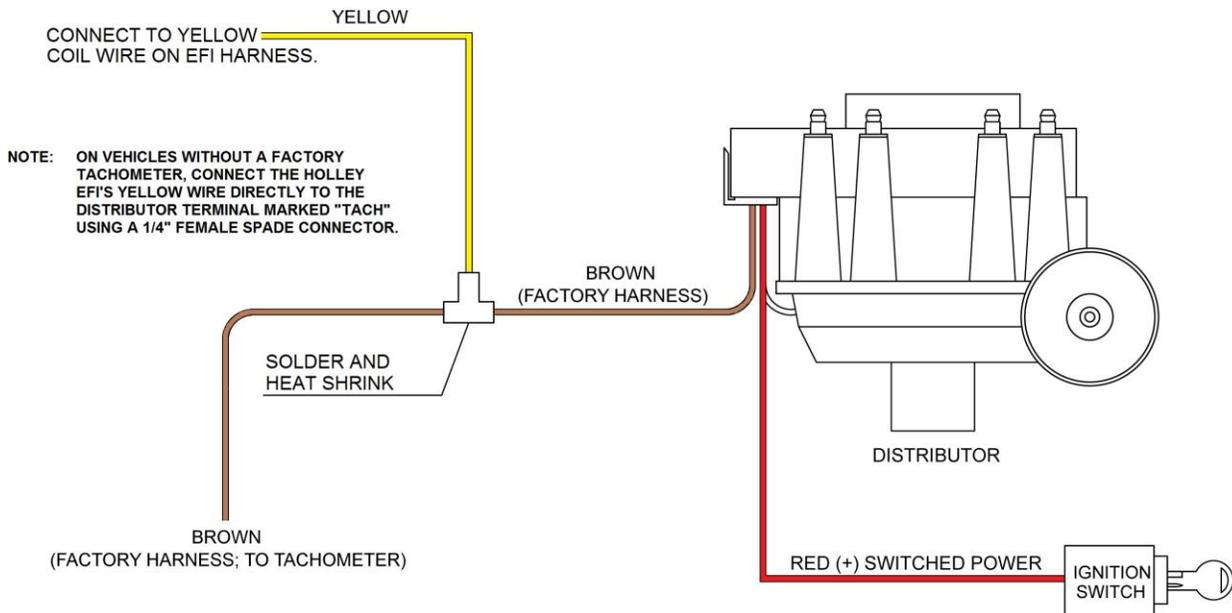

Figure 32
- 1) Any General Motors engine equipped with a factory large cap HEI distributor equipped with mechanical/vacuum advance (Figure 32).
Figure 32 below shows how to connect to a large cap HEI distributor.